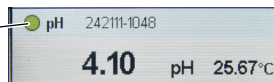

Figure 2.1 Status symbol of a sensor (top level of Handheld interface)
The Handheld can display data from only the four (or fewer) sensors that it actively monitors at any time. Data from each of these sensors is shown in a data-overview panel containing information about sensor type, parameters and values measured, and sensor status. If everything is functioning correctly, the status symbol is green. Flashing green indicates that the Handheld is being updated with data from a correctly-functioning sensor (Figure 2.1).
3. Check the status of the sensors displayed on the top level of the interface. All status indicators for connected sensors must be green or yellow. (Figure 2.1.)